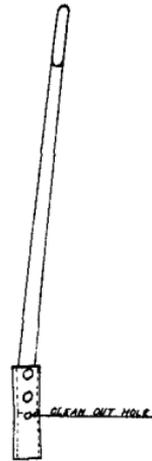

Fig. 20 - LEVER for Shaking Grates
**Shaker Lever**—The shaker lever (Fig. 20, page 31) is applied to the grate shaker post for the purpose of shaking the grates. The lever should be applied cor-